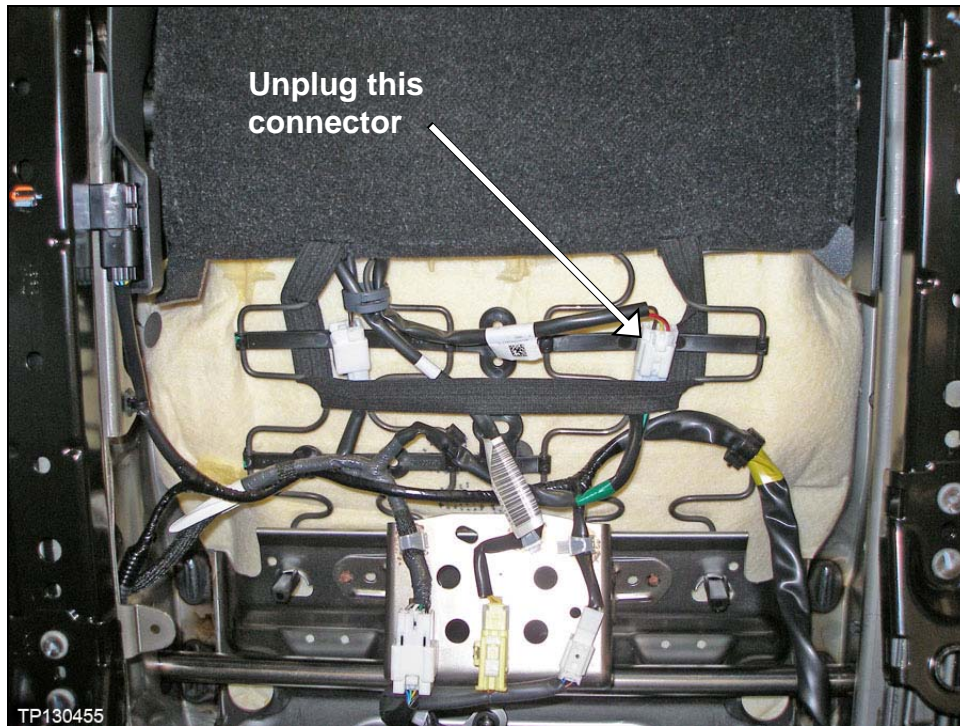

Figure 5
4. Unplug the seat harness(es) where noted in Figure 5.